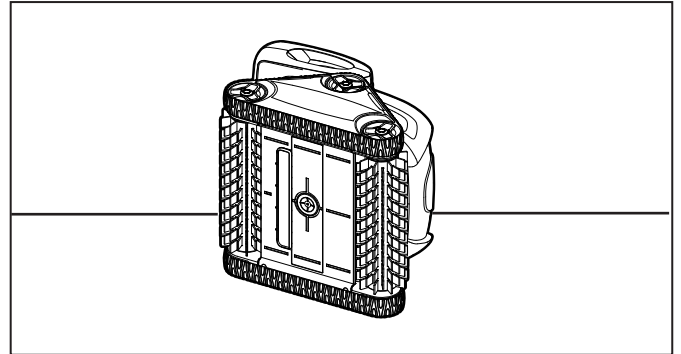

**Figure 18. Cut Tabs**
5. Use scissors to cut the tabs at the guides, as shown in Figure 18.